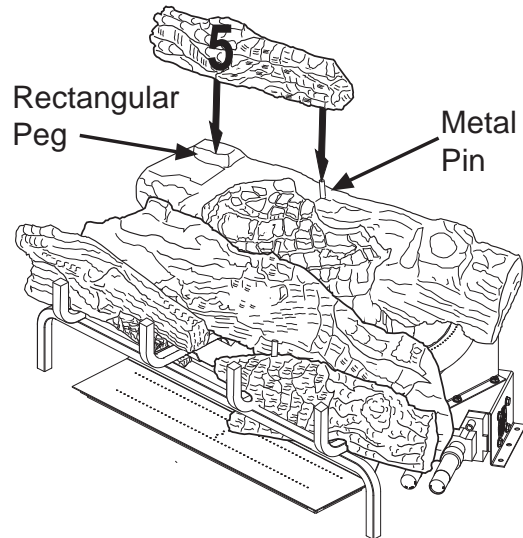

Figure 25 - Installing Log #5
5. Place the left back top log (#5) on top of the rear log (#1). Match the rectangular peg on top of the left side of the rear log (#1) with the rectangular hole on the bottom of the left back top log (#5). Match the metal pin on the top of the rear log (#1) with the round hole in the bottom of the left back top log (#5). See **Figure 25**.